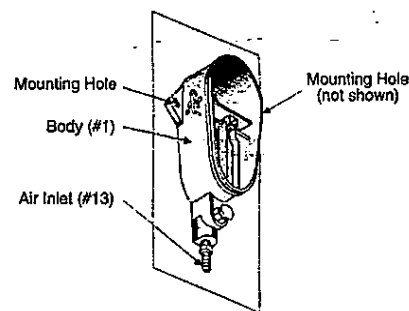

Figure 1 - Mounting the Spark Plug Cleaner
2. Fasten the Spark Plug Cleaner to the surface with the AIR INLET (#13) pointing downward. Use the Mounting Holes in the body (#1) as shown in Figure 1.